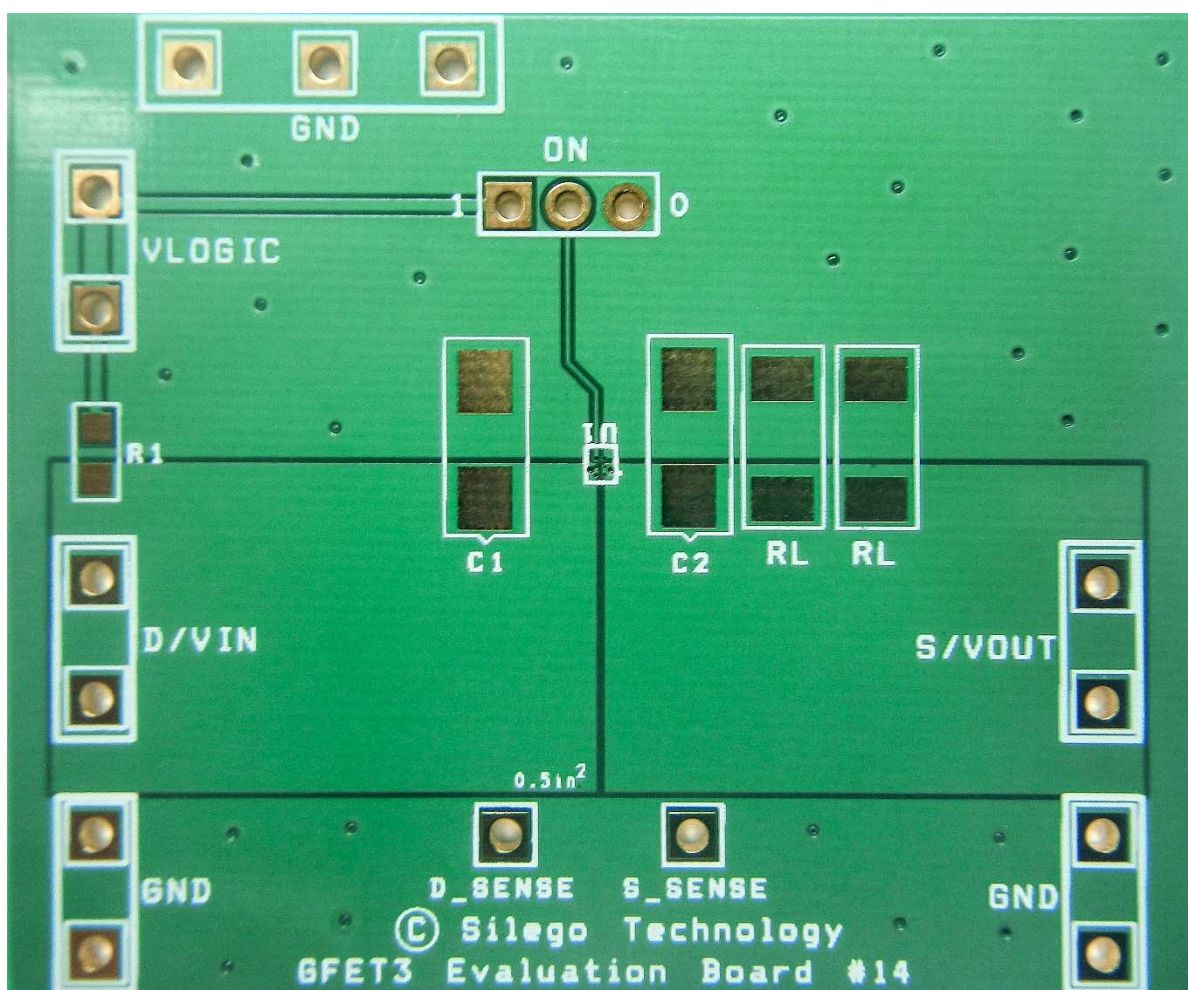

Figure 8. SLG59M1685C Evaluation Board.
1. Since the VIN and VOUT pins dissipate most of the heat generated during high-load current operation, it is highly recommended to make power traces as short, direct, and wide as possible. A good practice is to make power traces with an absolute minimum widths of 15 mils (0.381 mm) per Ampere. A representative layout, shown in Figure 8, illustrates proper techniques for heat to transfer as efficiently as possible out of the device;
A GFET3 Evaluation Board for SLG59M1685C is designed according to the statements above and is illustrated on Figure 8. Please note that evaluation board has D_Sense and S_Sense pads. They cannot carry high currents and dedicated only for RDS_{ON} evaluation.